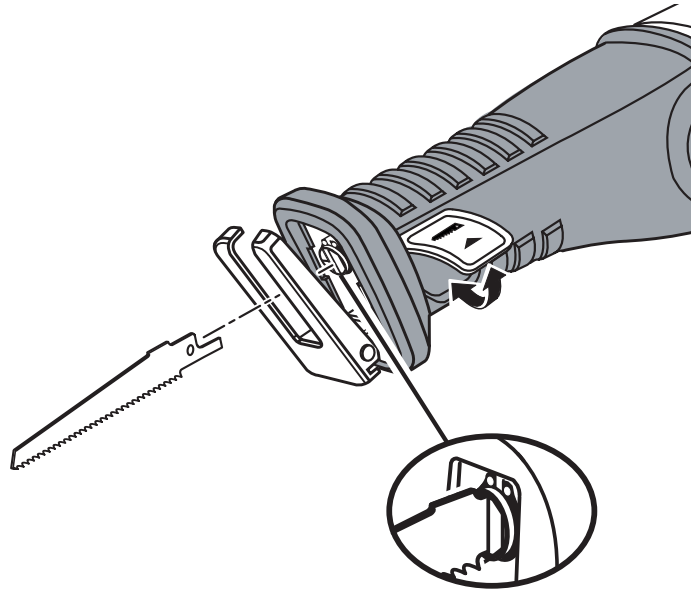

Fig. 2
- Lift blade clamp lock / release lever located on side of saw. See Figure 2.